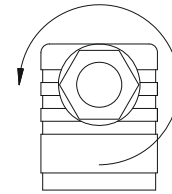

Fig. 9
- ↪ Loosen the screwed cable gland ⑤ M16x1,5 (⇒ Fig. 9).